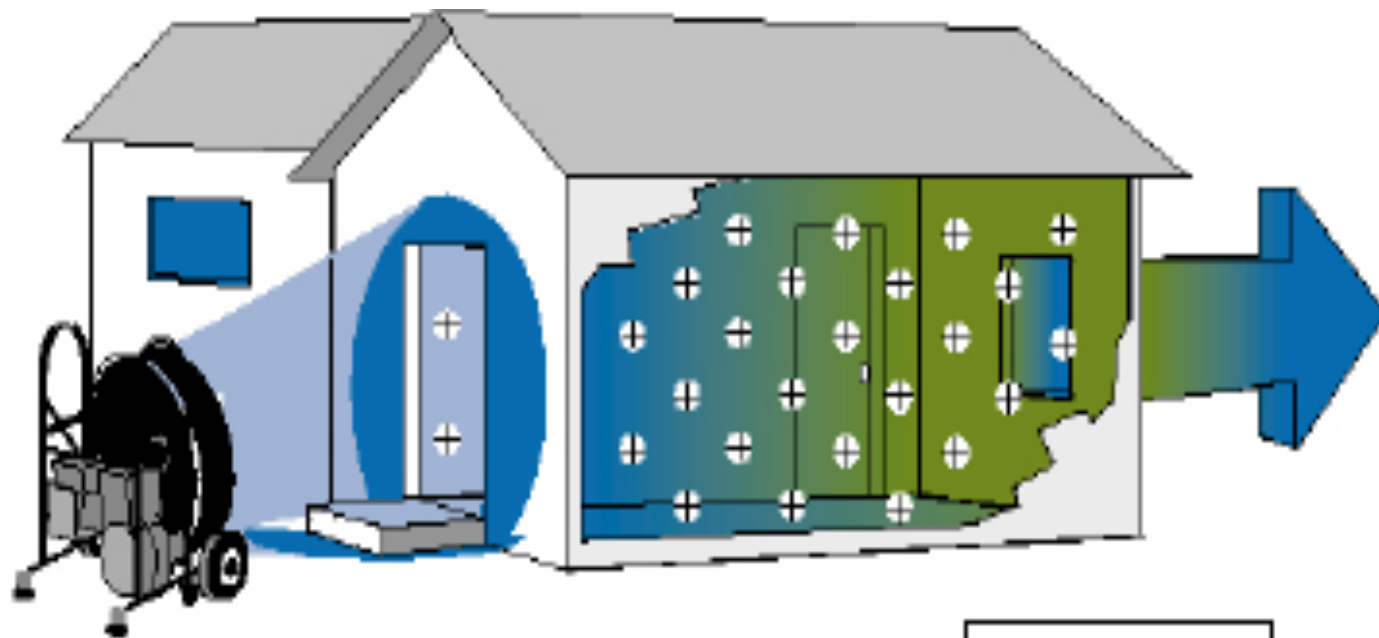

Figure 5.1
- (1) a cone shaped air pattern, and
- (2) pressure. To accomplish Positive Pressure Ventilation, the blower is placed on the outside of the structure. It is positioned so that the cone shaped air pattern created by the blower completely seals the entrance opening (*Figure 5.1*). When this seal is achieved, the air pressure is increased quality at all points inside the structure.
- As in (*Figure 5.1*), blower A is positioned about two feet from the entrance opening. This ensures that all of the pressurized air from the blower enters the building, yet allows sufficient room for personnel to enter and exit the building.